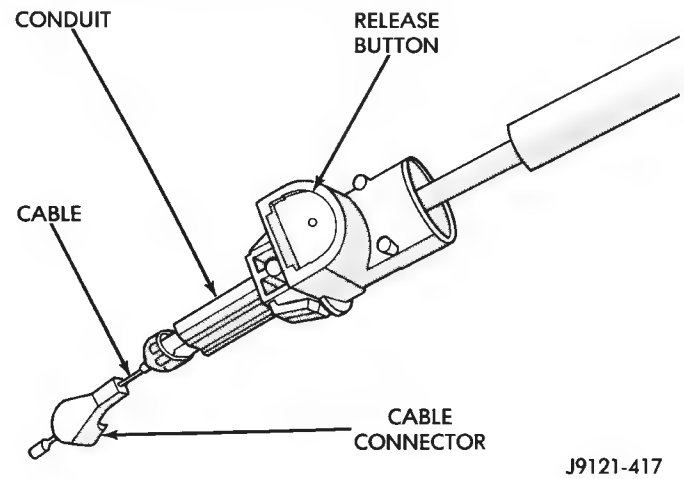

Fig. 6 Throttle Valve Cable Components
- (1) Shift transmission into Park and shut engine off.
- (2) Press cable release button (Fig. 6).